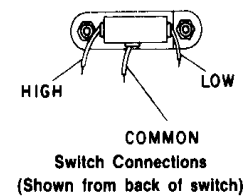

Fig. 5
6. Connect electric wires from wallbox to the switch (see Fig. 5).